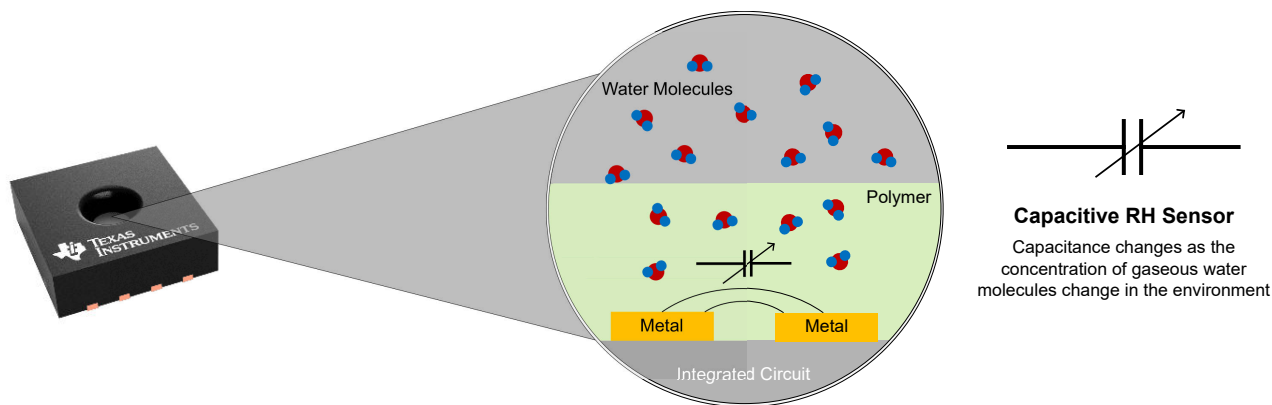

Figure 2-1. Sensing Polymer Example
- Sensing Polymer:** capacitive-based RH sensors utilize an exposed polymer to capture moisture in the air. This captured moisture fills voids in the polymer, which alters the dielectric constant of the polymer. This change in dielectric constant creates a change in capacitance for the sensing electrode beneath the polymer. Temperature and humidity conditions can also affect how the polymer senses humid air, along with other unwanted components such as other chemicals. Figure 2-1 shows a simplified sensor structure, with the polymer acting as the media which captures moisture from the air.